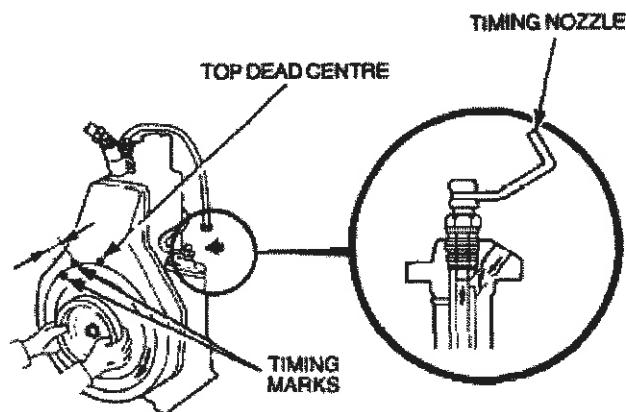

Figure 15 Injection Timing Advanced
- o.** The injection timing is advanced if the fuel supply stops prior to the timing marks aligning as shown (Figure 15).